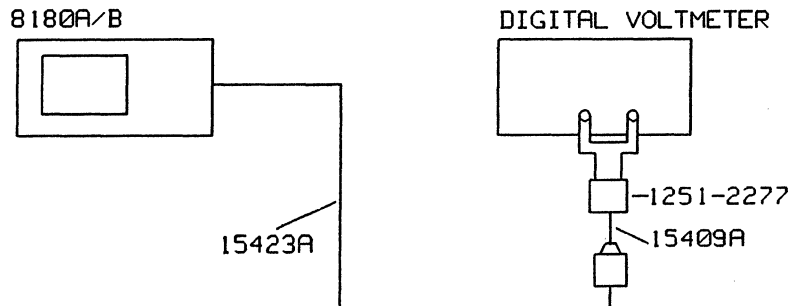

Figure 6-7. Test Setup for the Level Accuracy Test
6. Connect the equipment as shown in Figure 6-7 and press RUN.